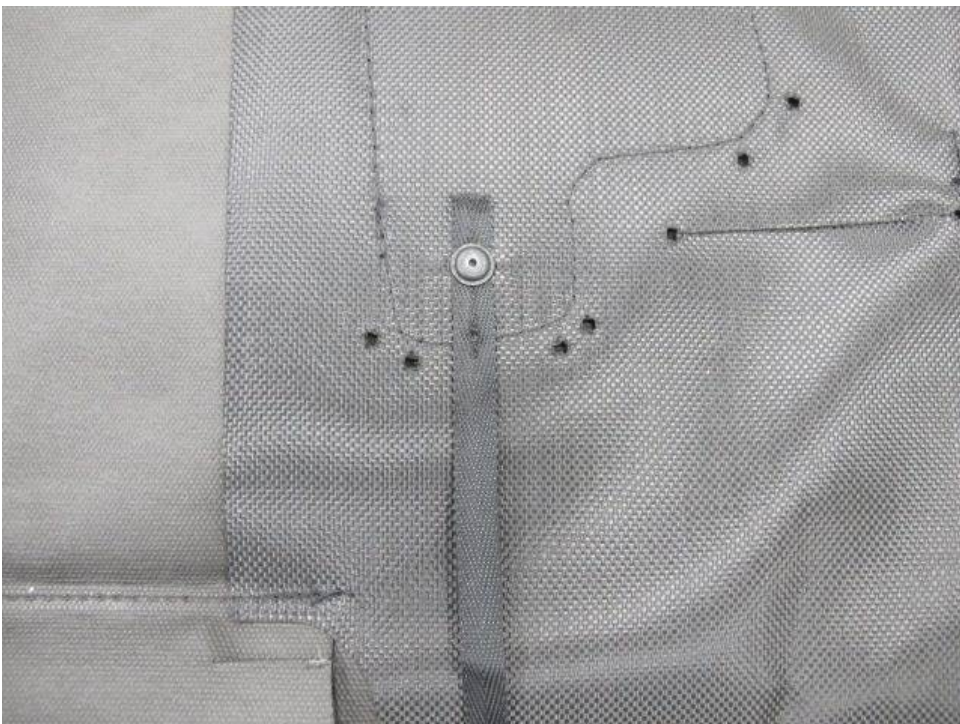

Figure 8
- Secure the strap to the insulation pad using a suitable rivet gun (Figure 8)